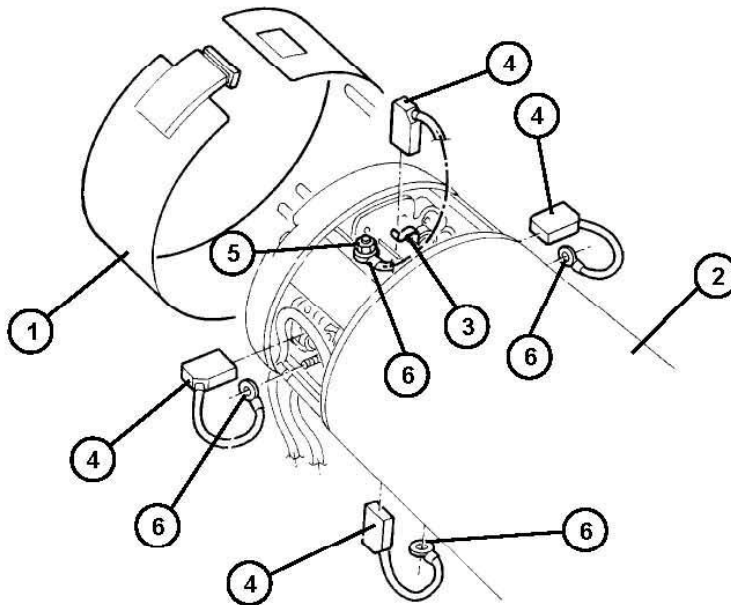

Figure 9-5
2. Release and remove the strap (1, **Figure 9-5**) of the drive motor (2) after you have cleaned externally the motor of dirt and dust.
3. For each of the four carbons, lift the retaining clip (3) and extract the carbons (4).